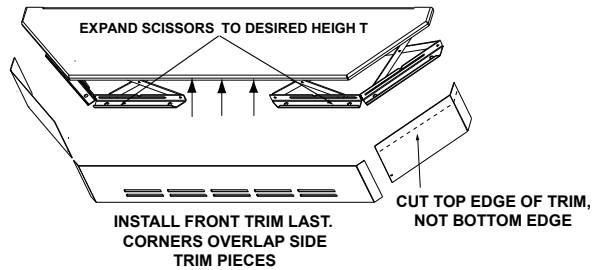

Figure 21.2
2. Expand scissors to desired height. Tighten screws to hold in place using Phillips head screwdriver (**Figure 21.2**).